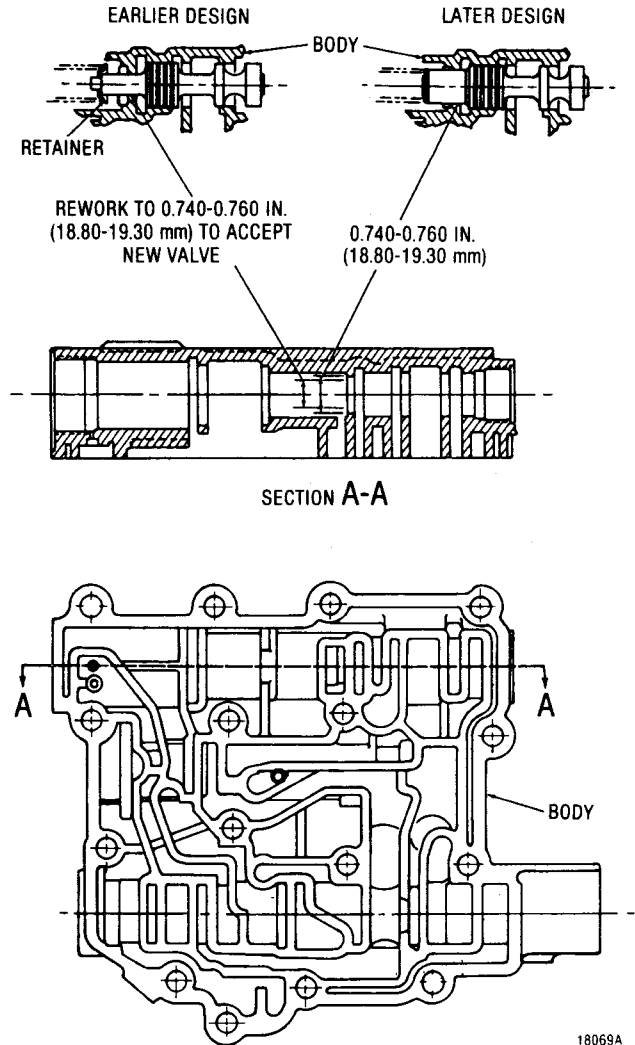

Fig. 6-2. Control valve body rework area (earlier models with new valve)
(6) For models with a groove in valve body 9 for snapping 27, apply a light coat of Loctite Retaining Compound No. 75 (or equivalent) onto the outer circumference of new selector valve oil seal 26. Being careful not to load up the snapping groove with retaining compound, install seal 26, with the manufacturer's identification numbers outward, to a depth that clears the snapping groove. Clean out the snapping groove and install snapping 27.
(7) Install main-pressure regulator valve 8 (foldout 18,B), and install gasket 7 and plug 6. Tighten plug 6 to 80-90 lb ft (109-122 N·m). Install gasket 53 and plug 54. Tighten plug 54 to 30-40 lb ft (41-54 N·m).
(8) Install plugs 36, 51, and 55. Tighten the plugs to 10-12 lb ft (14-16 N·m). Install gasket 34 onto plug 35 and install the plug. Tighten plug 35 to 80-90 lb ft (109-122 N·m).
(9) Refer to figure 6-2. If main pressure regulator valve 8 (foldout 18,B) is of the earlier design, spring retainer 13 must be used. If valve 8 is of the later design, no spring retainer is used. If a later design replacement valve is to be used in an earlier valve body, rework is required (fig. 6-2).
(10) If required, install spring retainer 13, concave side first, onto the stem end of main-pressure regulator valve 8. Install main-pressure regulator spring 14, trimmer spring 15, and trimmer plug 16 into the valve bore. Install gasket 17 and plug 18. Tighten plug 18 to 90-100 lb ft (123-135 N·m).